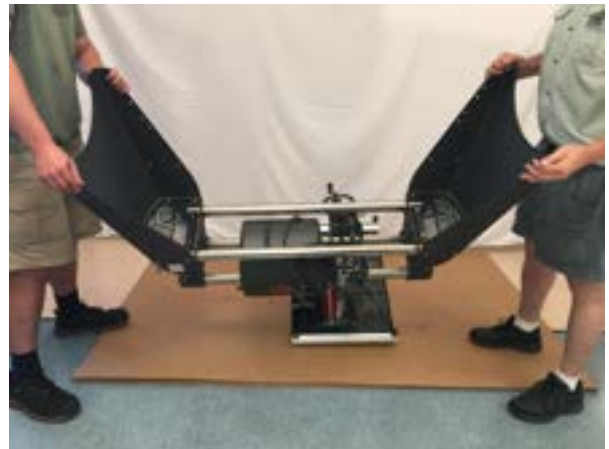
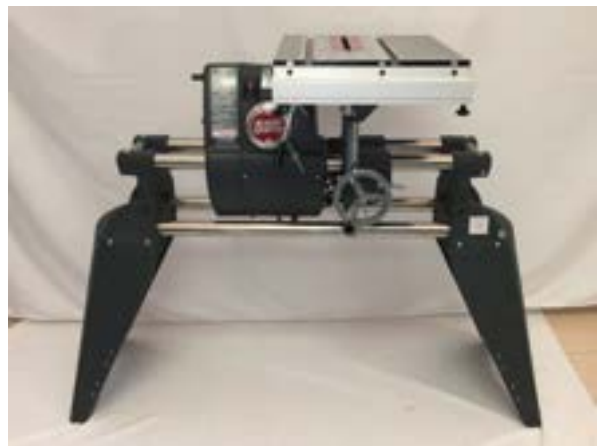

Figure B-28
Figure B-29
12. With a helper, turn the MARK 4 [Shorty] right side up as seen in Figure B-28. Figure B-29 shows the MARK 4 [Shorty] upright.